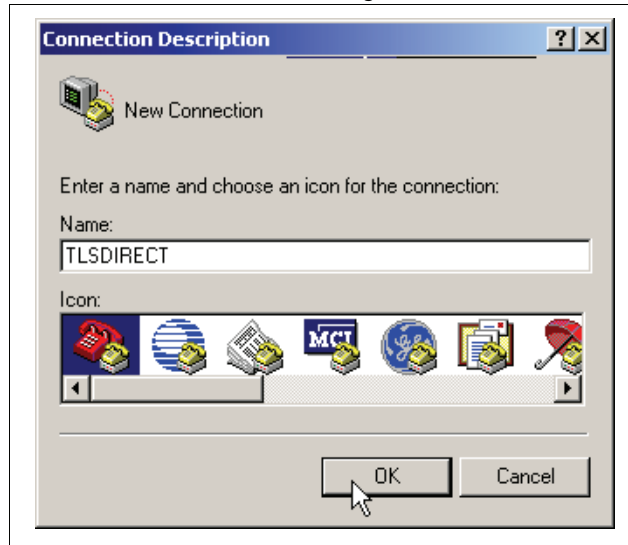

Figure 12. Connection Description window
2. After opening the terminal software program, ignore (cancel) any modem/dialing related request windows since you will be directly connecting to the console via serial communications. When the Connection Description window appears (Figure 12), enter a connection name, e.g., TLSDIRECT, and click the OK button.